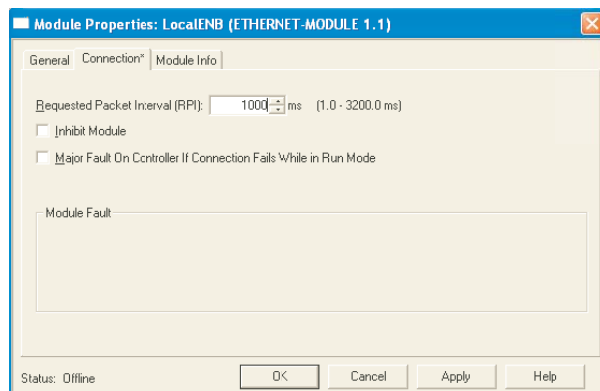

Figure 4.3.21q Module properties page
7. In the Module properties page (Figure 4.3.21q), set RPI to 1000 and click 'OK'.